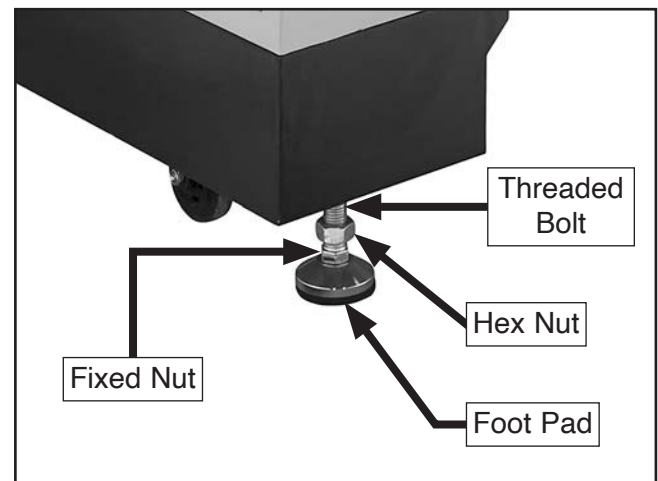

Figure 14. Adjustable foot components.
2. Loosen hex nut on each adjustable foot threaded bolt, then rotate fixed nut until measured axis is level (see **Figure 14**).